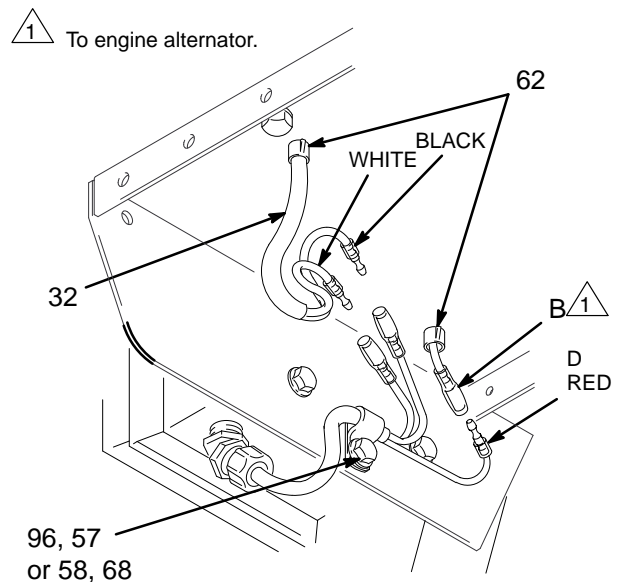

Fig. 18
6. Place the **engine (1)** assembly on the cart. Align the mounting holes. Guide the engine wire (B) and wiring harness (29) from the field through the appropriate grommets (62) in the mounting plate (E). Install the serrated flange screws (14), and nuts (48 or 57) and torque to  $15 \pm 2$  ft-lb ( $20 \pm 2.7$  N·m). Install the capscrew (15), from under the engine mounting plate to secure the clutch housing (2). Connect the engine wire (B) to the red wire (D), and connect the black and white wires as shown in Fig. 18.